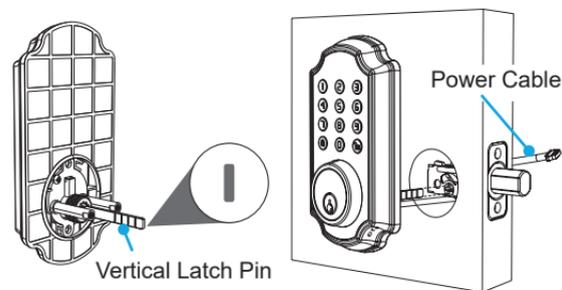

Fig. 7
Step 2. Start with the outside section. Turn the latch pin vertically and remove the key from the key hole. Gently feed the power cable under the latch and thread the latch pin through the square hole in latch. The latch pin must be vertical while inserting the square hole in the latch (Fig. 7).